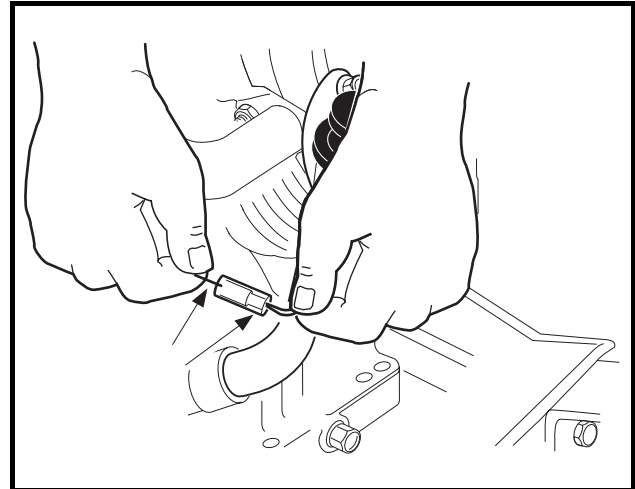

Figure 19-42 Ignition Kill Wire
18. Connect the engine kill switch wire (18-gauge white/black) to the bullet connector at the lower right front of the engine (**Figure 19-42, Page 19-16**).